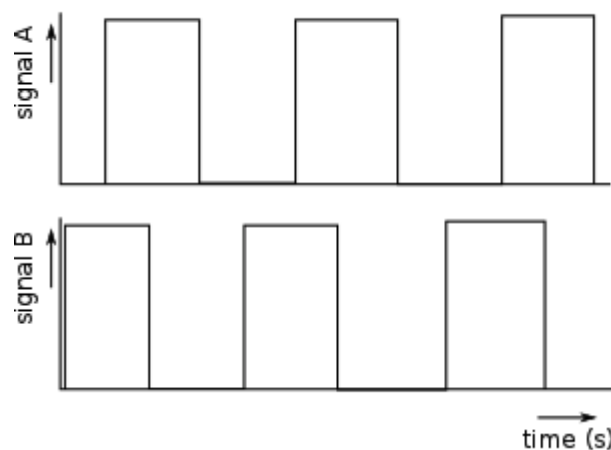

Figure 4.1: Example signal form an encoder
- An input signal may look like Figure 4.1. Depending on which signal arrives first (phase shifted 90 degrees), the direction can be determined.